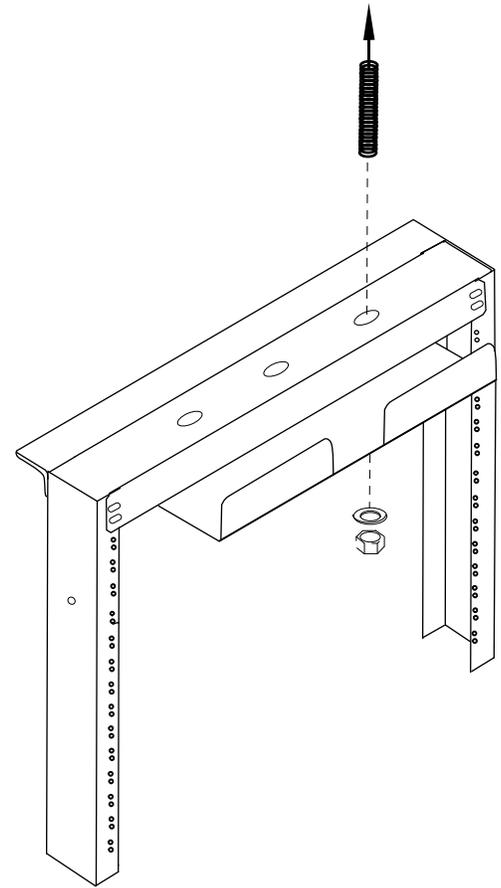

Figure 7
Step 2: If the installation requires the frame to be supported from the top, use a 1/2-in diameter J-bolt or threaded rod (not supplied) and secure the frame to the overhead support (Figure 7) using the washer and nut. Attach the top supports so they run perpendicular to the frame. This will provide clear space for cable routing.